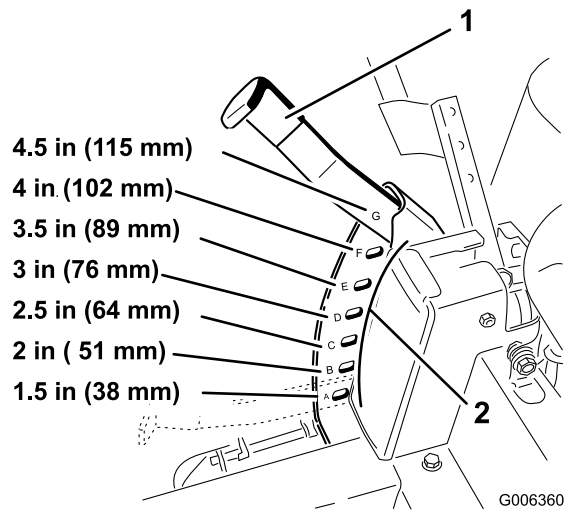

Figure 17
3. Raise the height-of-cut lever to the transport position, cutting height position **G** (also the 4-1/2 inch [115 mm]) (Figure 17).